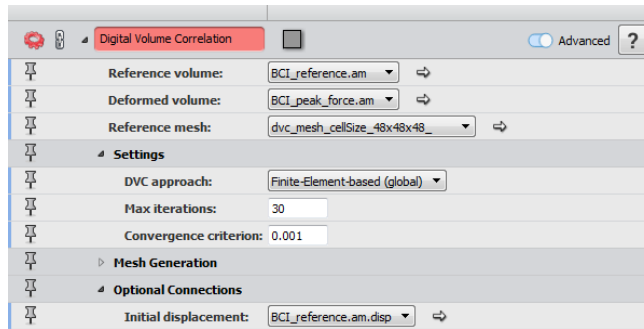

Figure 21.12: Finite-Element-Based (global) Approach.
- Change the port *DVC Approach* to *Finite-Element-based (global)*. Set the *Max Iterations* port to 30 and *Convergence criterion* to 0.001. Attach the mesh `dvc_mesh_cellSize_48x48x48_` to the port *Reference mesh*. In the *Optional Connections* section, set the *Initial displacement* to `BCI_reference.disp` (displacements computed using the local approach with a sub-volume size of 110 voxels) (see Figure 21.12). Click **Apply**.